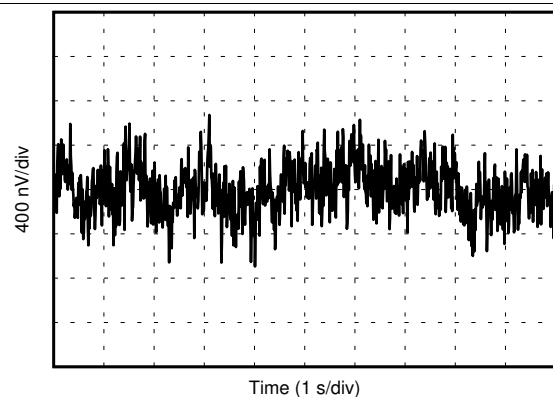

Figure 23. 0.1-Hz to 10-Hz Noise
0.1-Hz to 10-Hz Noise	Figure 23